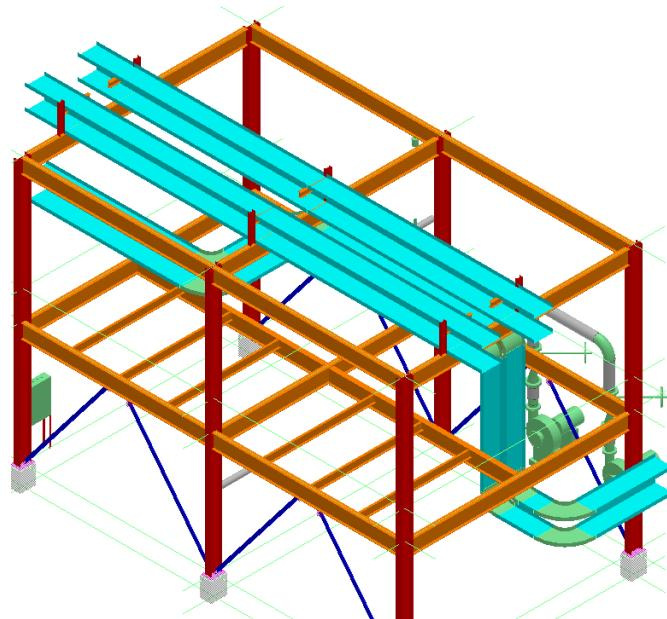

Figure 18: Cableways After Pasting
17. Left click in the graphic view to place the copied cableways, as shown in the highlighted section of Figure 18.